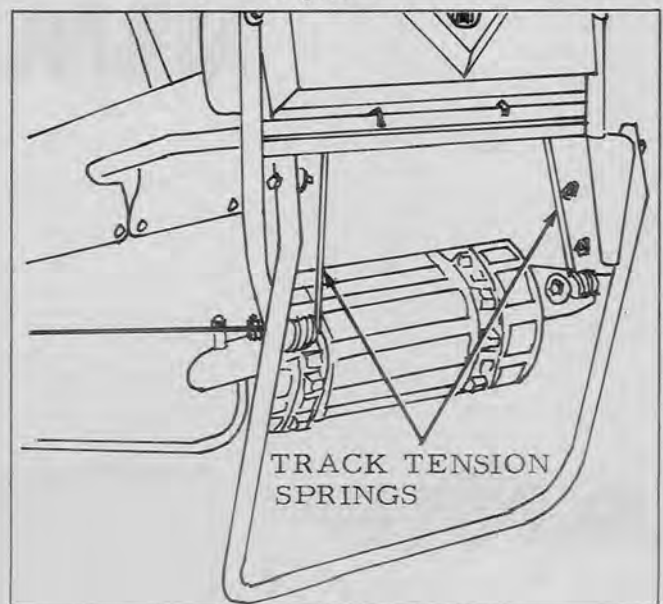

Figure 2
4. Remove track tension springs by pushing the extended top end toward the center and pulling down. Use same procedure on both sides (See Figure 2).